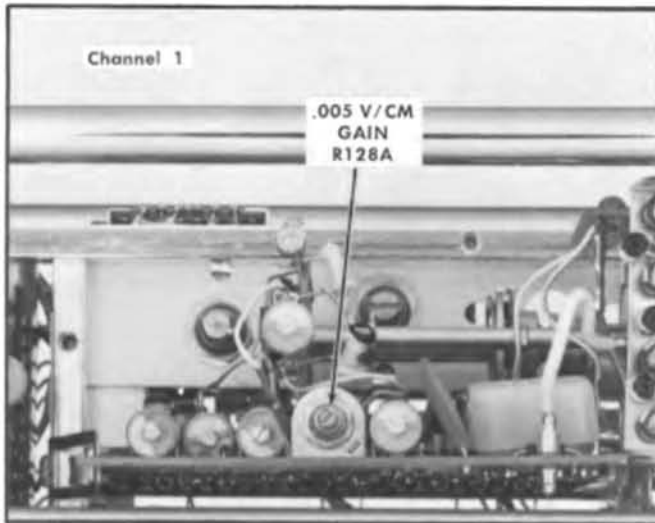

Fig. 7-11. Location of Channel 1 .005 V/CM GAIN adjustment.
e. ADJUST—Channel 1 .005 V/CM Gain control (see Fig. 7-11) to obtain the correct amplitude display.